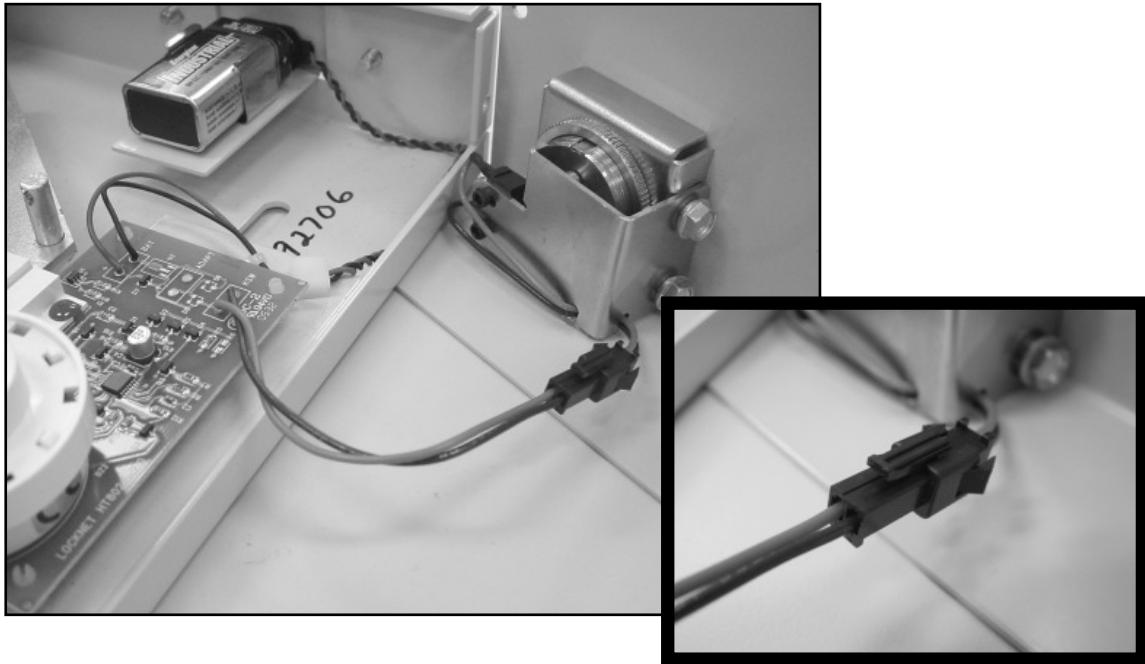

FIGURE 9
13. Connect the wire from the switch on the inside of the alarm assembly cover to the circuit board. (See Figure 9)